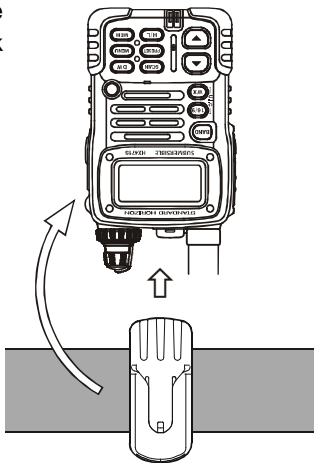

Figure 3
4. To remove the **HX471S** from the Quick Draw Belt Clip, rotate the **HX471S** 180 degrees, then slide the transceiver out from the Quick Draw Belt Clip (Figure 3).